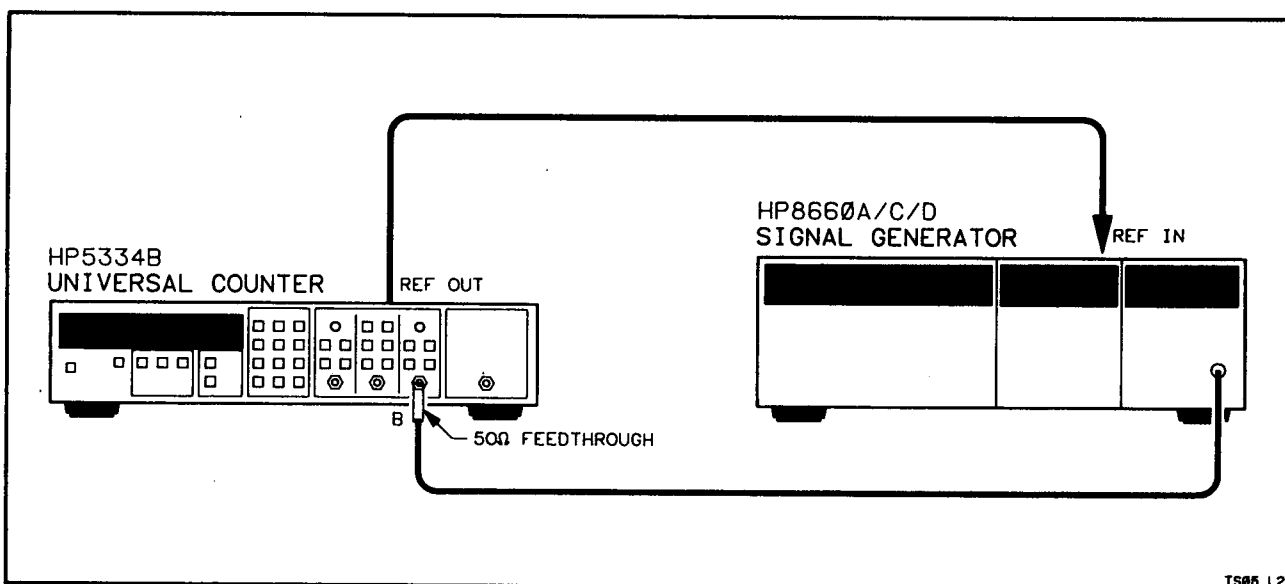

Figure 4-5. Channel B Frequency and Sensitivity Setup,
3. Connect the signal generator to the HP 5334B Input B using a 50Ω feedthrough connector as shown in Figure 4-5.